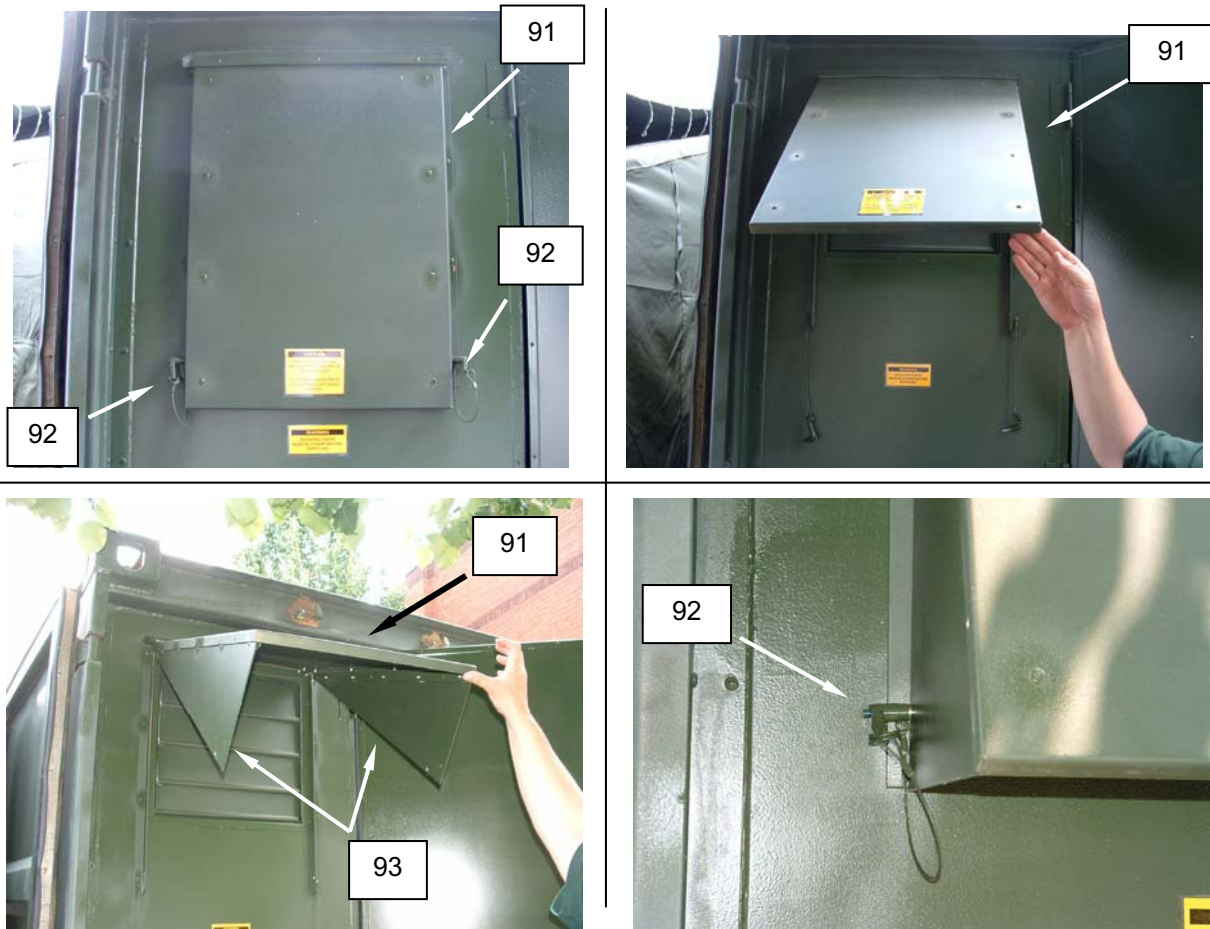

Figure 28. Prepare the Exhaust Rainhoods for Use.
1. Open the exhaust vent rainhoods (**Figure 28, Item 91**) by first releasing the two locking pins (**Figure 28, Item 92**).
2. Pull the rainhood (**Figure 28, Item 91**) out far enough to let the two side flaps (**Figure 28, Item 93**) unfold.
3. Lower the rainhood (**Figure 28, Item 91**) and secure the side flaps (**Figure 28, Item 93**) in place with the two locking pins (**Figure 28, Item 92**).